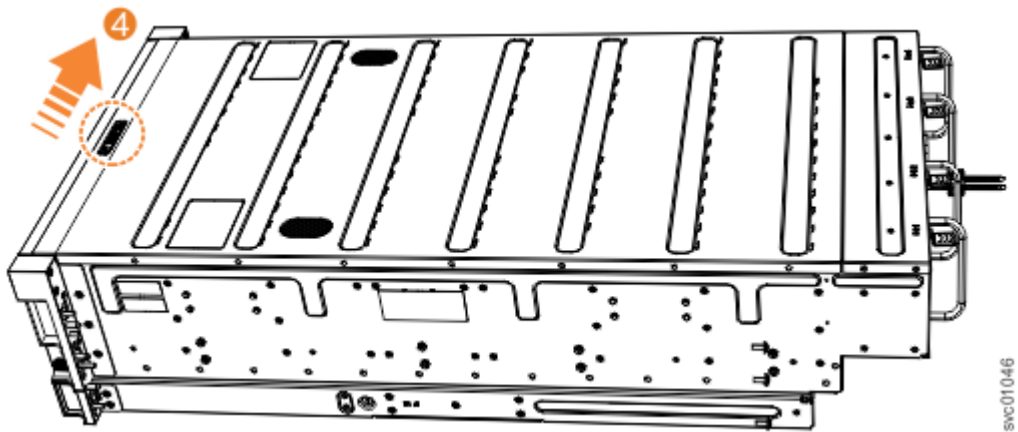

Figure 45. Locking the top cover
5. Lock the cover into position by sliding the release lever **4**, as shown in Figure 45 on page 49